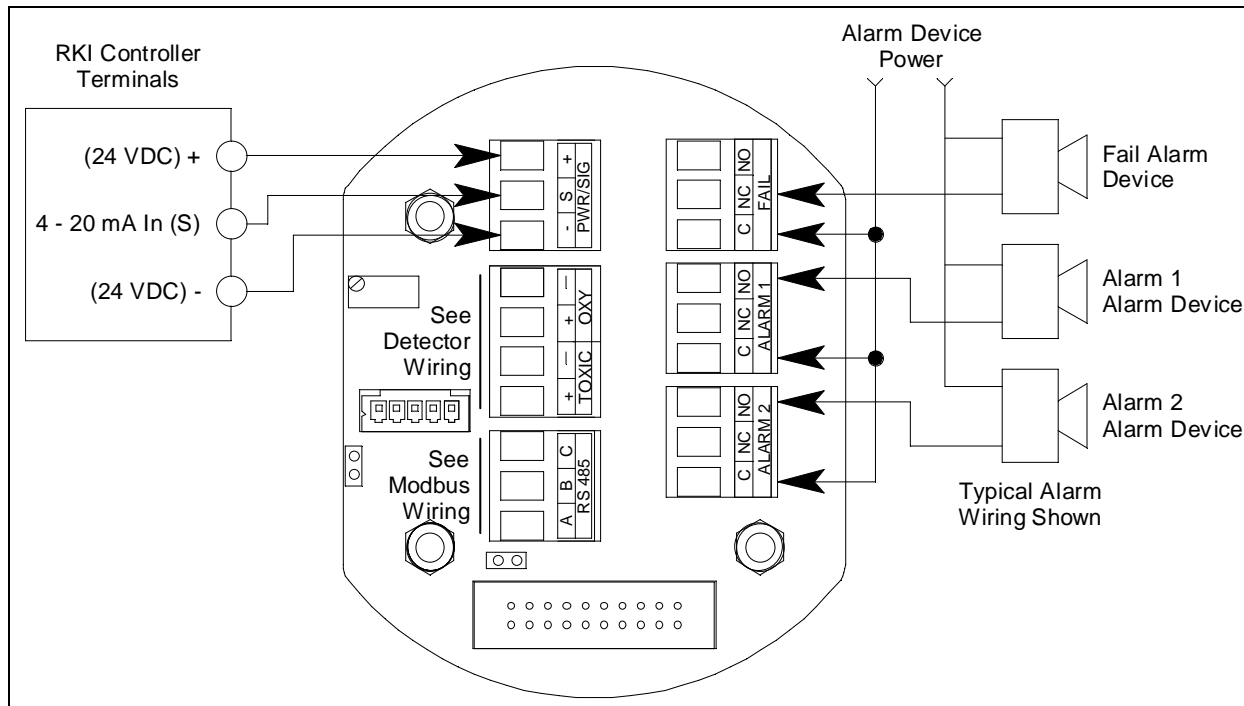

Figure 9: Wiring the M2A Junction Box to a Controller and Alarm Devices
- If the M2A will be wired into a Modbus network, see “Chapter 8: RS-485 Modbus Output” on page 39. See Figure 9 below for field wiring connections to the M2A.